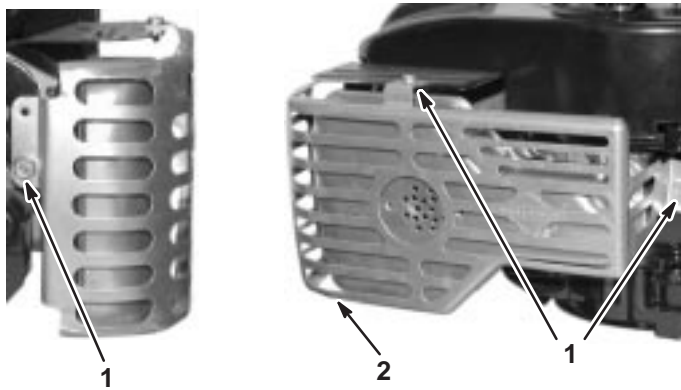

Fig. 148 – Removing Muffler Guard and Muffler
2. Remove three (3) screws holding muffler guard and remove guard, Fig. 148.
2. Place muffler guard over muffler and torque muffler guard to bracket screw to 85 in. lbs. (10.0Nm), Fig. 148.